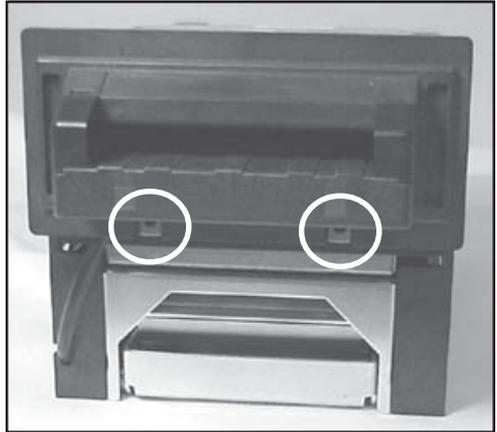

Figure 1
2. Disconnect the 4-wire harness from the side of the transport. Open the WBA head. Remove the two screws on the front of the bezel (see Fig. 1) and pull the bezel straight up.